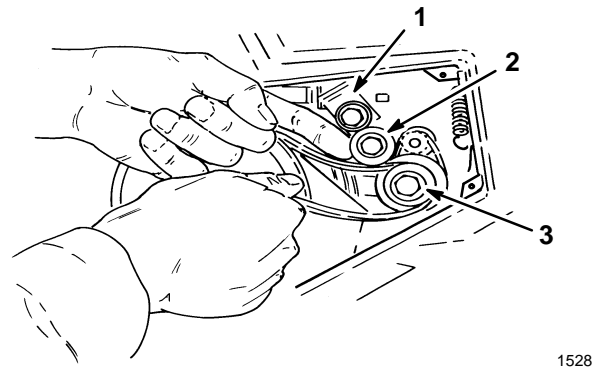

Figure 19
4. Slip new belt over small pulley. Lift up idler arm and slip belt under idler pulley (Fig. 19). Rotate rotor with left hand while walking (sliding) belt onto large pulley with right hand (Fig. 20).